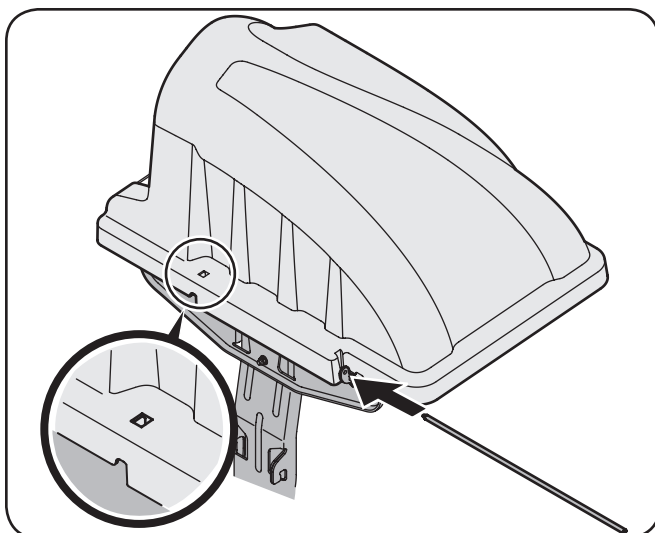
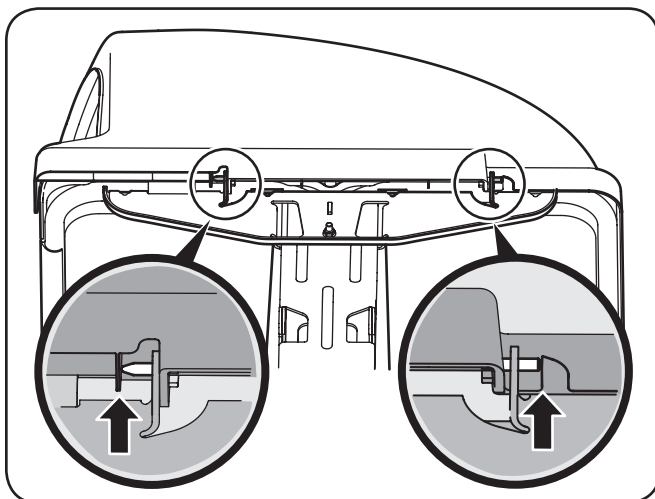

Figure 4-12
Figure 4-13
6. Slide the hinge pin into the hole located on the mounting tab, as in Fig. 4-12. Use the cut-out window (See inset in Fig. 4-12) to line up the hinge pin on the other side and push pin all the way in until it reaches the end-stop. At this point the pin clips into place and is secured by a tab in the bagger cover. See Fig. 4-13.